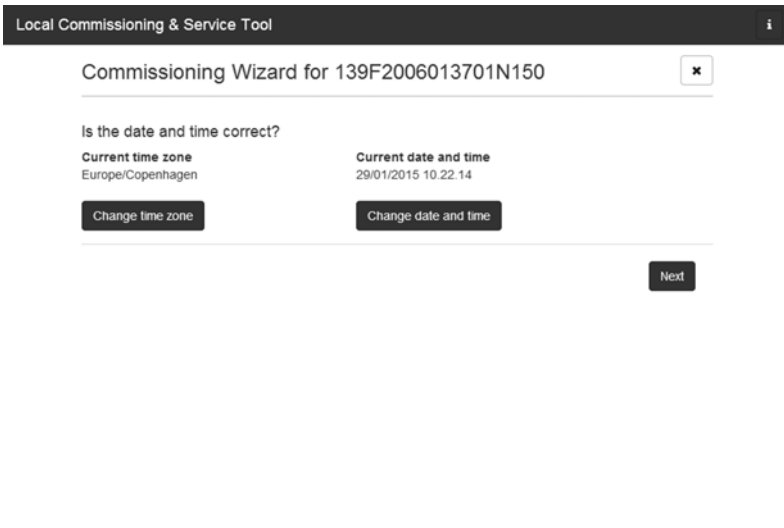

Figure 9: LCS-Tool - checking date and time
4. Verify that date and time are correct. If not, set date and time and continue (see figure 9).